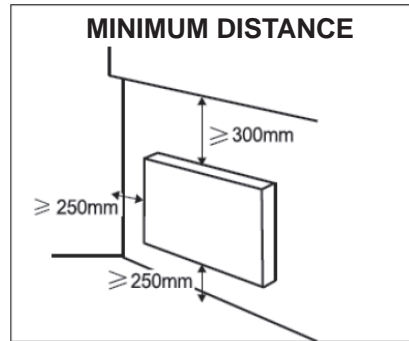

FIG 1
- Observe the minimum distances as shown in FIG 1.